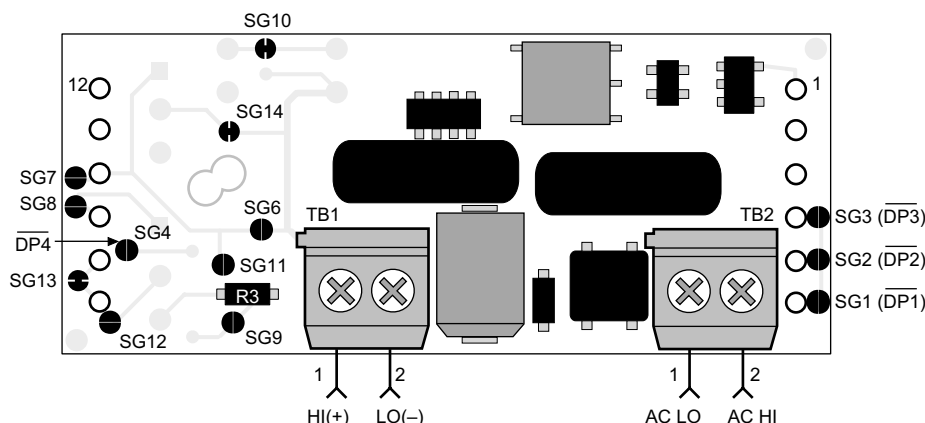

Figure 2. DMS-EB-AC/DC Board
**4. DMS-40LCD Meters:** The RN-DMS resistor accessory kit, comprised of potentiometers R4 (Gain/Span) and R5 (Offset/Zero), **cannot be used** with DMS-40LCD Series meters. However, to change the input range on DMS-40LCD meters from the default low-range (i.e., with pin 2 of the meter open) to the high range, short pin 2 to pin 1 (+5V) on the top right side of DMS-EB-AC/DC board (refer to Figure 2 and the DMS-40LCD data sheet for more information).
**6. Solder Gap Identification** (See Figure 2): Each solder gap's respective number is printed directly on the pc-board surface in copper etch. Be sure to double check all solder gap modifications before applying ac power and the input signal to the DMS-EB-AC/DC.